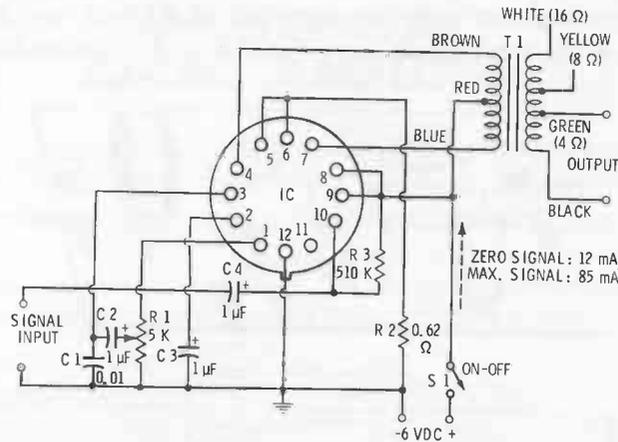

Fig. 5-3. Circuit of the quarter-watt audio amplifier.
Fig. 5-1 is an overall view of the completed amplifier with IC plugged-in and battery connected. Figs. 5-2A and B show layout of the components, and Fig. 5-3 is the circuit diagram.
In the  $\frac{1}{4}$ -watt amplifier (compare Figs. 5-3 and 5-4), the input signal is applied to terminal 10 (base of transistor Q1), and the gain-control potentiometer (R1) is connected between terminal 1 (emitter of Q1) and ground. This makes an emitter follower out of Q1. Output from the potentiometer is applied to terminal 3 (base of Q2), which is one side of the phase inverter. The power output stage is connected push-pull: The emitters of Q6 and Q7 (terminals 5 and 6) are connected together and to 0.62-ohm emitter resistor R2, and the collectors (terminals 4 and 7) are connected to the outside
10. Wire the underside of the board (follow the wiring diagram in Fig. 5-3 and the pictorial diagram in Fig. 5-2B). Note that the bottom view of the IC Socket is given in the drawings and that terminal 12 is marked with a dot on the Augat socket. For wiring, use a thin, insulated, stranded hookup wire; thicker wire is too large for the closely spaced socket terminals. For portions of the wiring that require no insulation (such as jumpers between socket terminals, or the common bus), use solid, tinned, No. 22 wire. In wiring the transformer, follow the color coding of leads indicated in Fig. 5-3. This transformer has 4-, 8-, and 16-ohm outputs. The black and green secondary leads, shown in Fig. 5-3, provide 4-ohm output; for 8 ohms use black and yellow, and for 16 ohms use black and white. The unused leads should either be clipped off or rolled up and tucked to one side below the board.